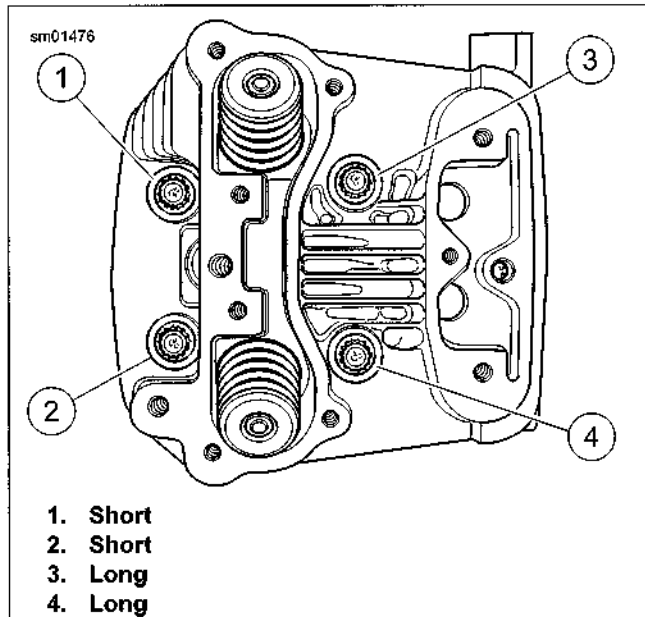

Figure 3-19. Front Cylinder Screw Torque Sequence
See Figure 3-19 or Figure 3-20. Follow sequence of incremental removal as described below to prevent component damage.
1. See Figure 3-19 and Figure 3-20. Loosen each screw 1/8-turn following the sequence shown.